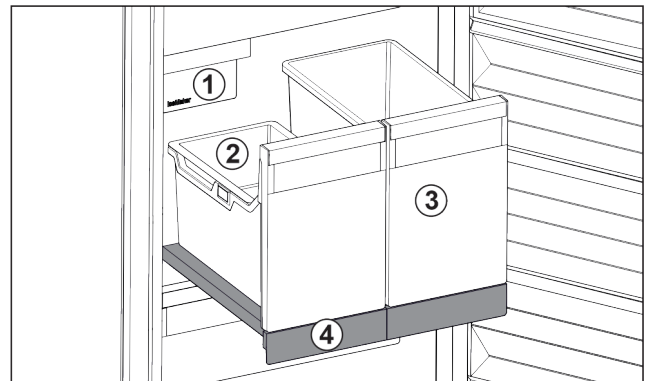

Fig. 122 Pull-out board with IceTower
On the pull-out board are two tall containers (IceTower). Ice cubes from the IceMaker are collected and stored in the container Fig. 122 (2). The container Fig. 122 (3) is suitable for storing tall foodstuffs or beverages such as pizzas or alcoholic drinks.